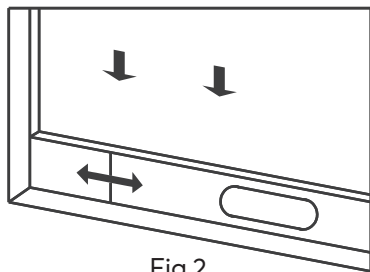
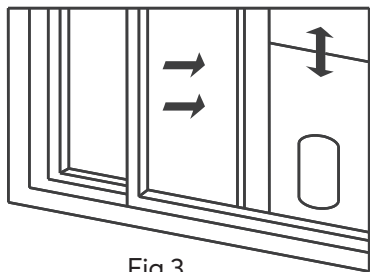

Fig.2
Fig.3
1)Half open the window, and mount the window sealing plate assembly to the window (as shown in Fig.2 and Fig.3).Components can be placed in horizontal and vertical direction.